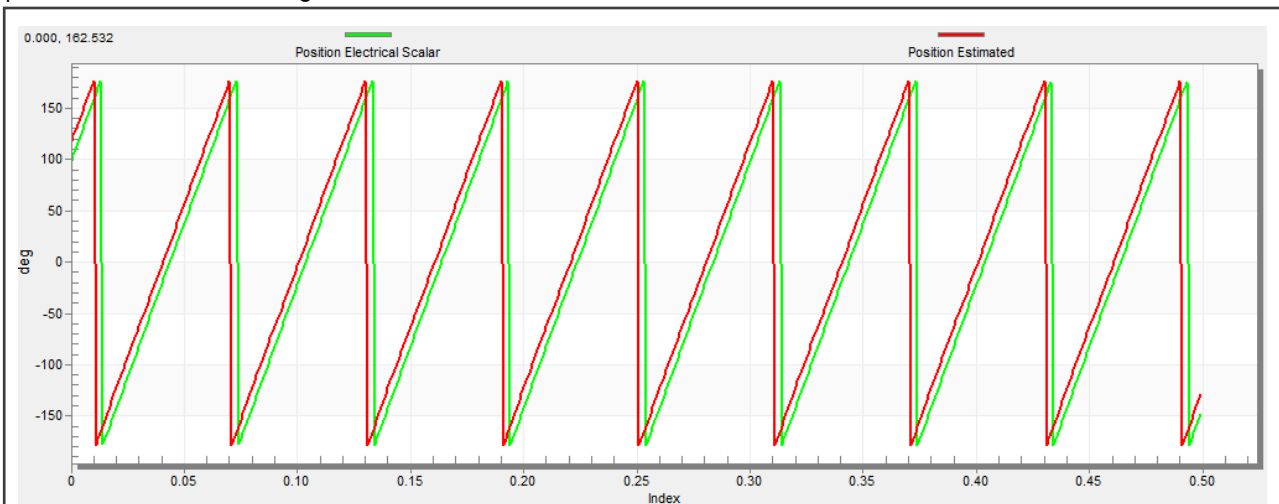

Figure 25. Generated and estimated positions
- Select the "Position" recorder to check the observer functionality. The difference between the "Position Electrical Scalar" and the "Position Estimated" should be minimal (see Figure 25) for the Back-EMF position and speed observer to work properly. The position difference depends on the motor load. The higher the load, the bigger the difference between the positions due to the load angle.